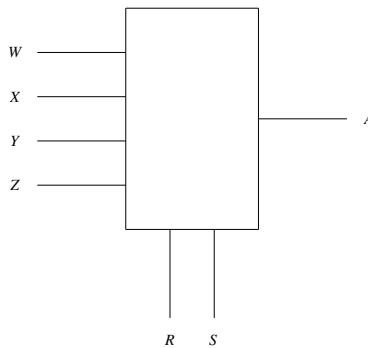

Fig. 4.14
24. Consider the 2-bit multiplexer (MUX) shown in Fig. 4.14. For output to be the XOR of  $R$  and  $S$ , the values for  $W, X, Y$  and  $Z$  are \_\_\_\_\_. (GATE EC 2022)